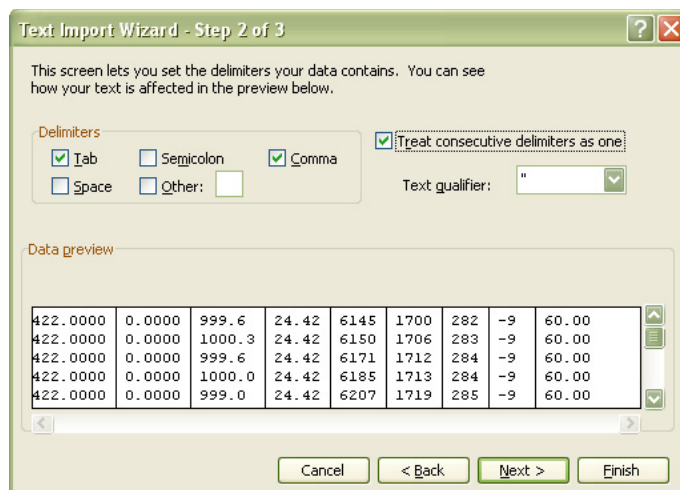

Figure 11. Setting Tab and Comma as delimiters
4. Click on the upper left cell with the "Idx" header, as shown in Figure 11. Hold the **Shift** key down while pressing the **Control** key followed by the **Right Arrow** key to highlight the third column. Hold the **Shift** and **Control** key down again and press the **Down Arrow** key to highlight all 512 rows.